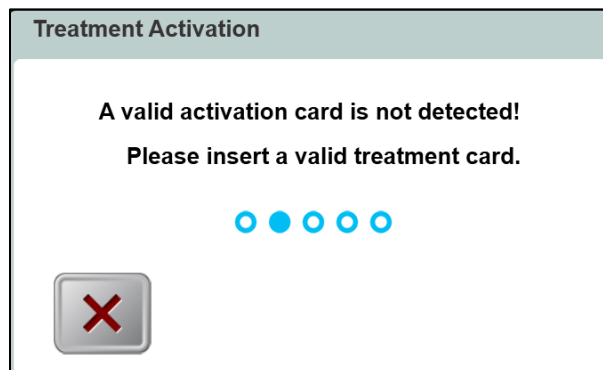

Figure 5-13. Activation Card Not Detected
- If no card has yet been inserted, an error message will appear as shown in Figure 5-13.